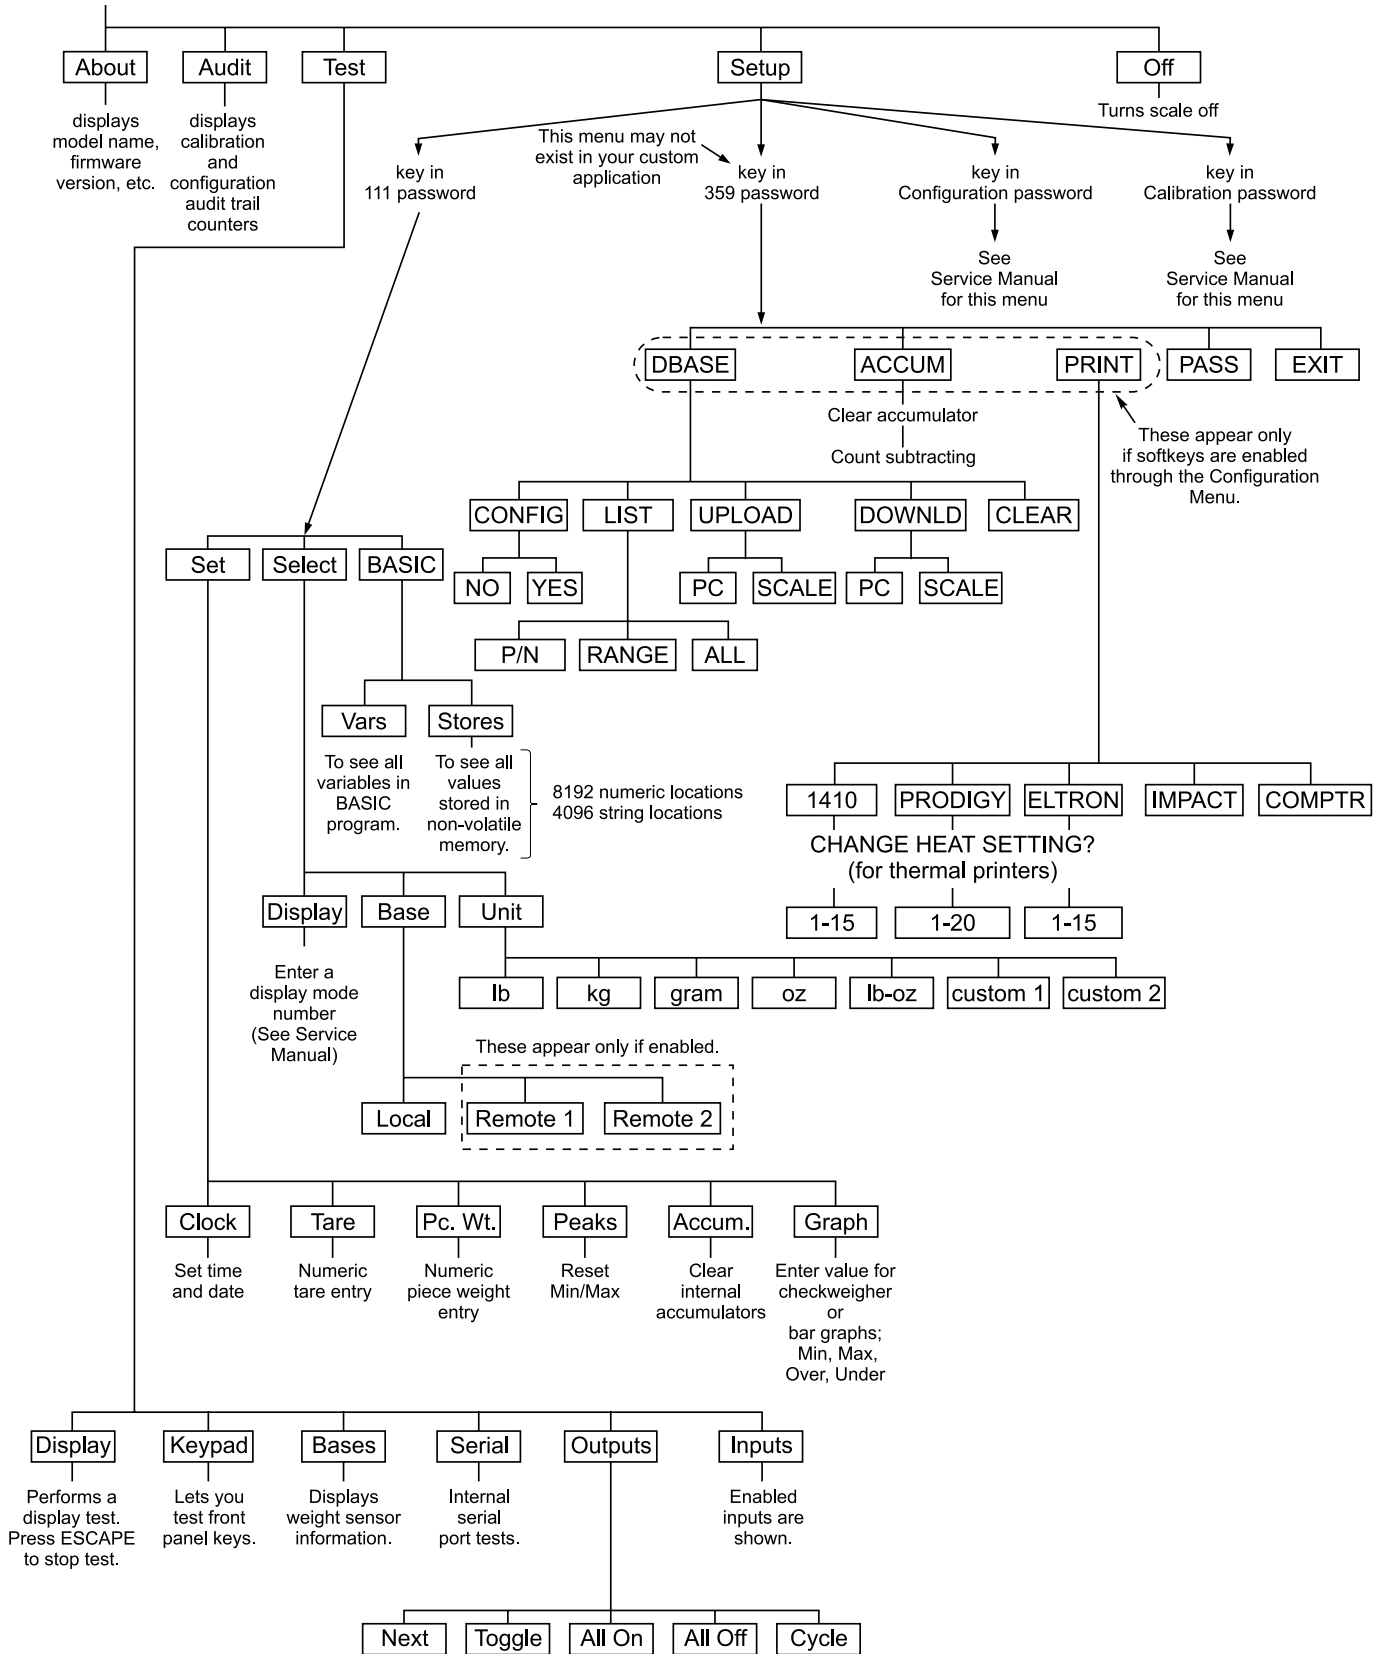

Figure 2
To enter the menu, press and hold the **ESCAPE** key until the unit beeps. The menu structure is pictured in Figure 2. The words in the rectangles represent softkeys you will see on the display.
- Setup** Press this softkey to access the password protected menus. The password for the User menu is 111. Figure 2 illustrates all the items you access in the User menu. Each is explained in the next section: *User Menu*.
This section covers the User menu. Refer to Figure 2. Access this menu by following these steps:
3. Key in 359 to enter the data menu. . . These softkeys appear if your unit has all the functions enabled: **DBASE, ACCUM, PRINT, PASS, and EXIT.** See Figure 2.